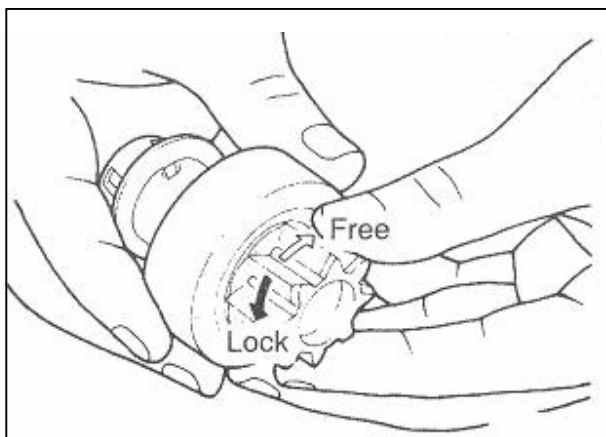

Fig. 9-21
(5) Overrunning clutch
- ① While holding clutch housing, rotate the pinion . Drive pinion should rotate smoothly in one direction, but should not rotate in opposite direction . If clutch does not function properly, replace overrunning clutch assembly. (see Fig.9-21) .
- ② Inspect pinion for wear or burrs. If pinion is worn or burred, replace overrunning clutch assembly. If pinion is damaged, also inspect ring gear for wear or burrs.